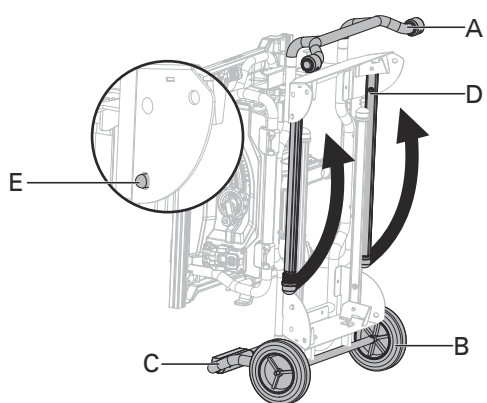

Fig. 3a
OPEN THE STAND (Fig. 3a-3d)
- Grasp the handle I (A) and tilt saw back onto wheels until the stand is balanced on the wheels (B) and stand support assembly (C). (Fig. 3a)
- Fold out two lower stand legs (D) (located on side of the wheel). To do this, push the locking pins (E) until they unlock the stand legs (D) from the holes, then swing the stand legs (D) upward until the stand legs (D) are locked with the locking pins (E) engage the holes. (Fig. 3a)